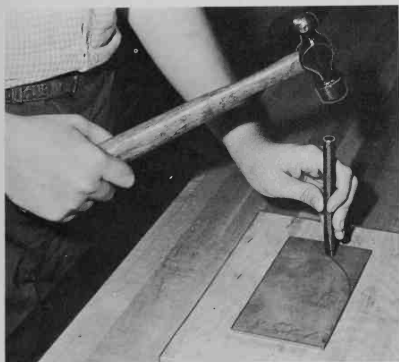

Fig. 4-28. Cutting metal with a chisel.
3. Grasp chisel in one hand, Fig. 4-28. Hold chisel in a perpendicular position with the cutting edge on the line to be cut.